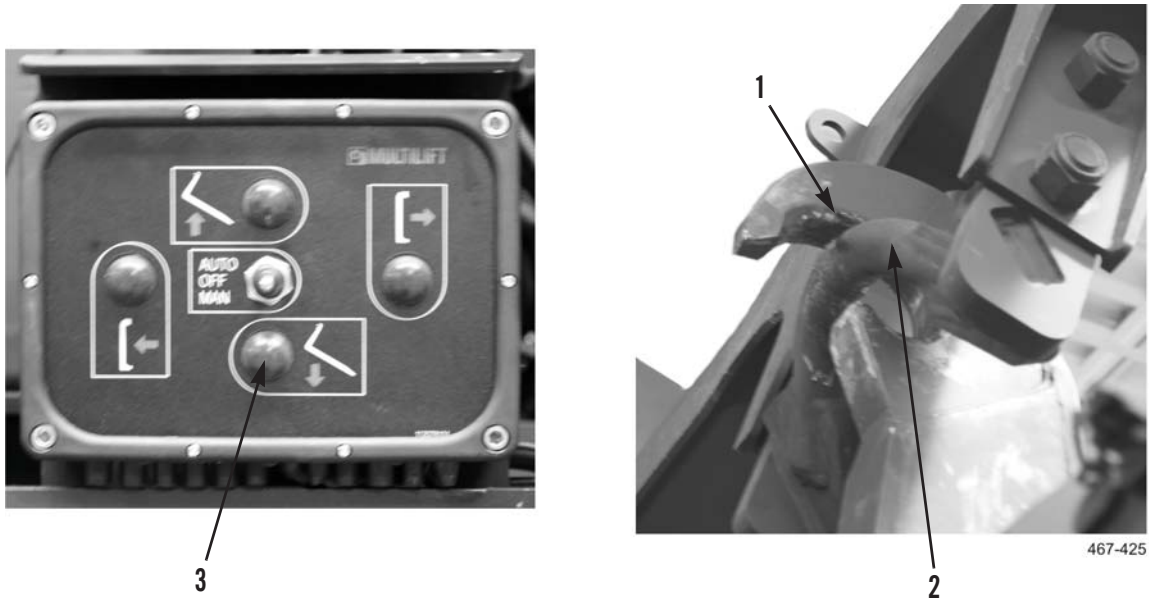

Figure 3. Inside of Hook Above Bail Bar.
7. Press and hold HOOK DOWN button (Figure 3, Item 3) until inside of hook (Figure 3, Item 1) is just above top of bail bar (Figure 3, Item 2). Release HOOK DOWN button.